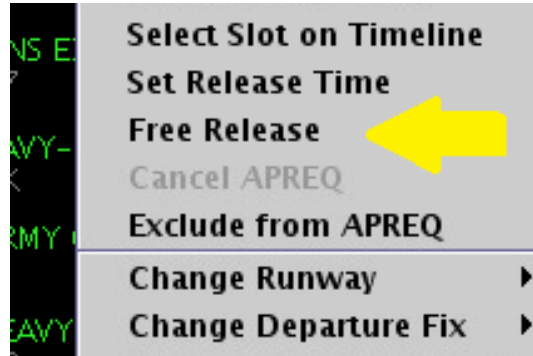

Figure 163. Select Free Release for a floating release time.
**Step 2:** Select “Free Release” from the menu options (Figure 163).